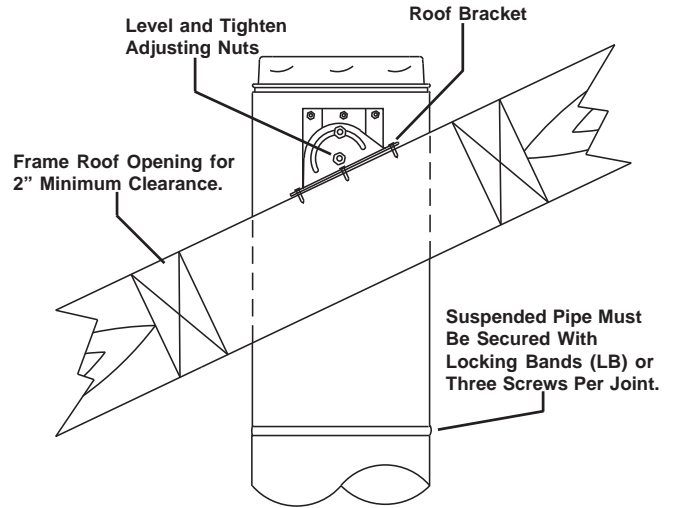

FIG. 2
2. Center assembly in the opening. Adjust plates to the roof pitch and tighten nuts (Fig. 2).